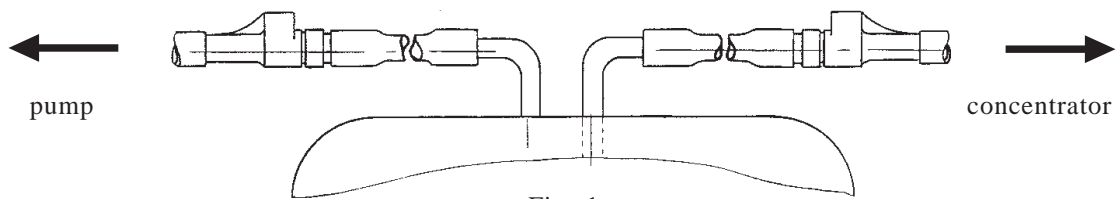

Fig. 1
- a. Connection of the glass insert (cf. fig. 1) :